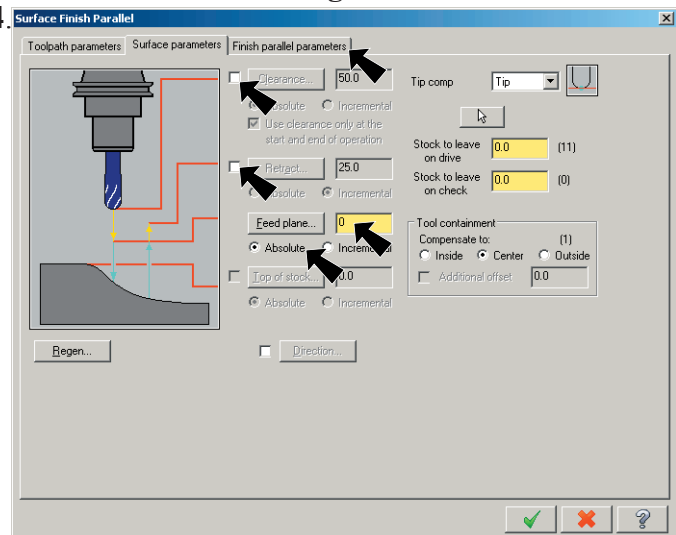

Fig. 44
Step 3. Uncheck **Clearance**, Fig. 44.
Step 4. Uncheck **Retract**, Fig. 44.
Step 6. Click the **Finish Parallel Parameters** tab at the top of the dialog box, Fig. 44.